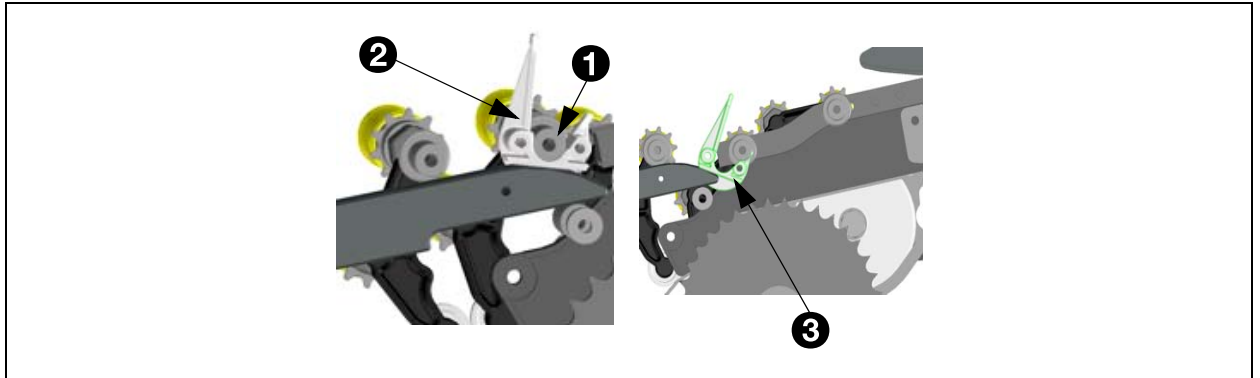

Fig. 55 - Run-out position of U-holder
1. The first roller (1) of the roller set is carried along by a U-holder (2). See fig. 55.
3. The roller must not be obstructed by the lowest leg (3) of the U-holder during the transfer from the U-chain to the guide in the frame.
Turn the machine manually using the TIP box(\*). Check whether the rollers are pulled smoothly out of the U-holder by the pin chain. See fig. 55.